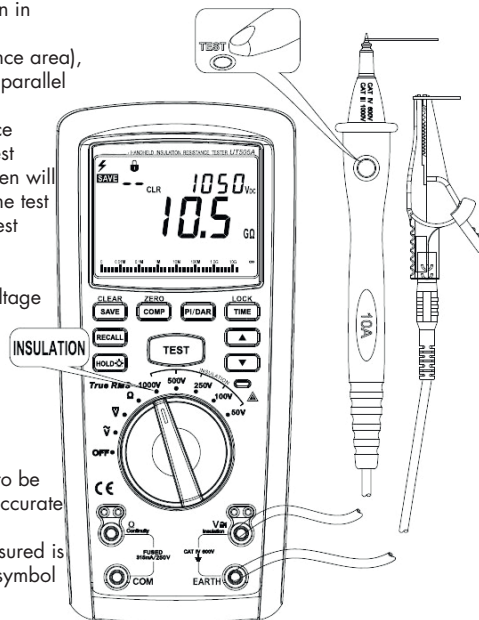

FIGURE 7
4. . Measurement of insulation resistance (see figure7)
5. Polarization index or insulation absorption ratio (see figure 7)
6. Use of comparison (See figure 7)